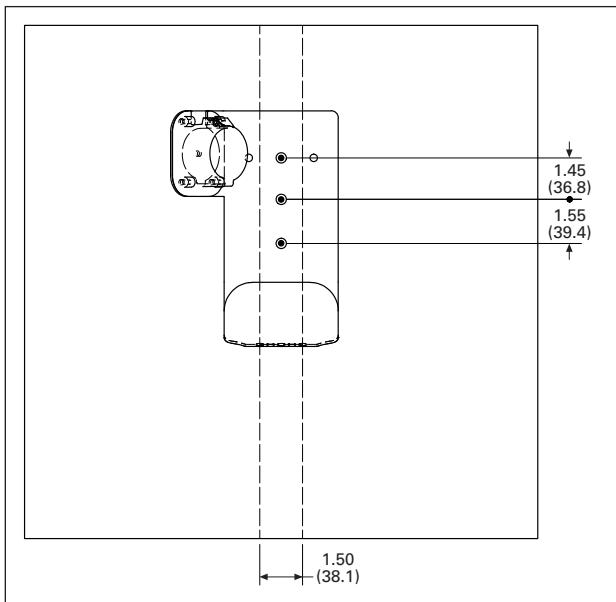

Figure 1. Mounting hole dimensions in inches (mm)
Step 2. Using the premium cord holster as a template, as shown in **Figure 1**, precisely align three holes of the bracket along the center line of the stud and mark each of the three mounting holes.